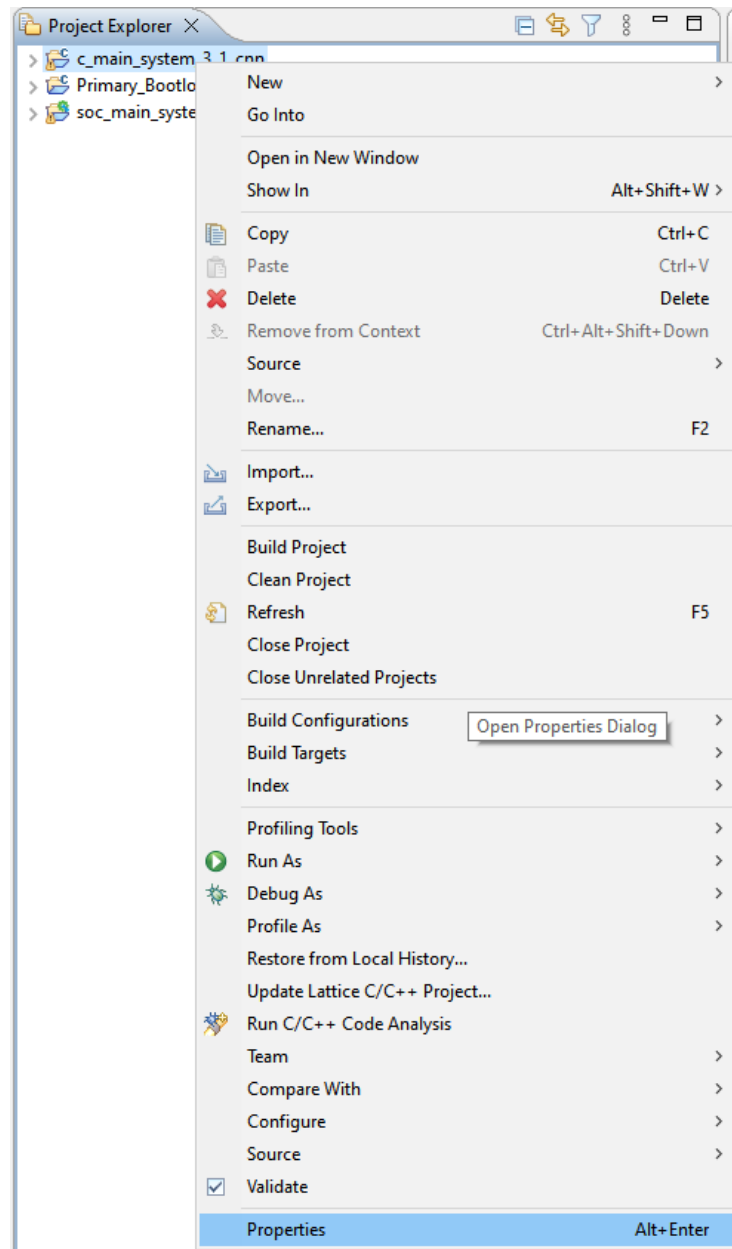

Figure C.18. Properties
6. Select the project as shown in Figure C.18: `\Main_System\Primary_MainSystem`.